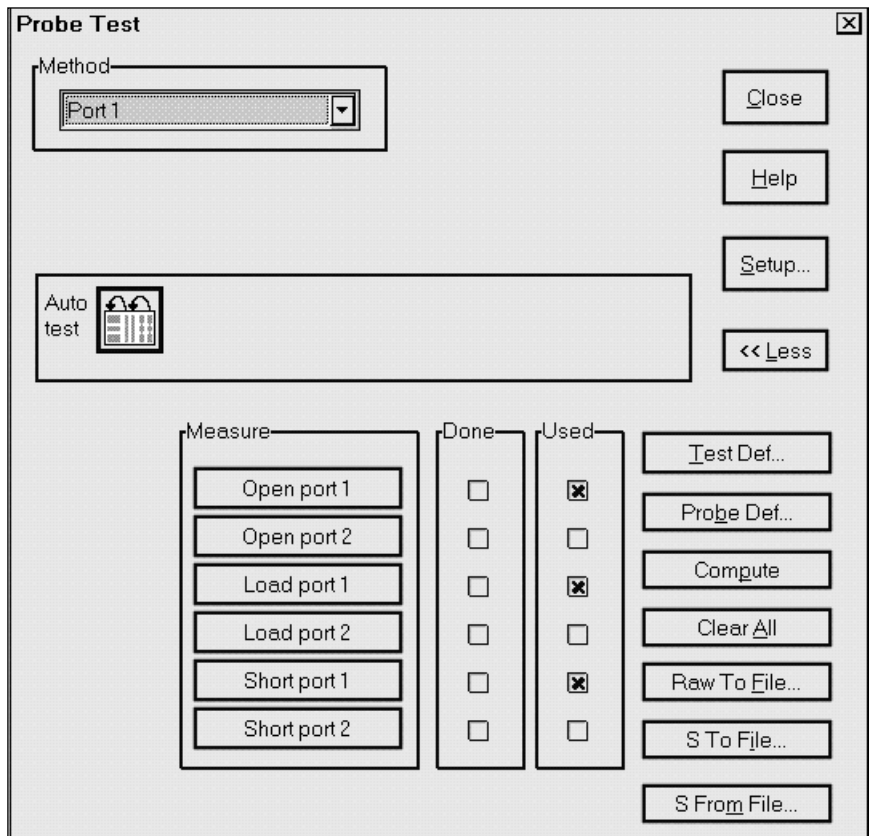

Figure B4. Probe Test dialog box
- Select Probe Test from the Tools menu. This will bring up a screen similar to the one shown in Figure B4.